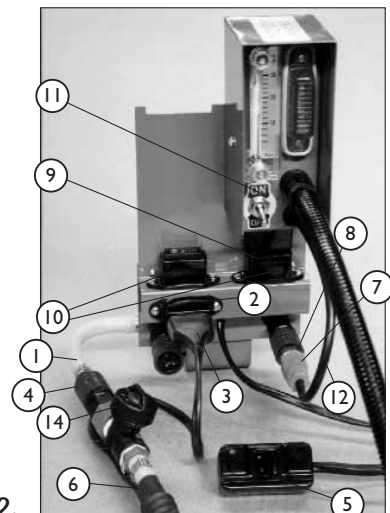

Figure 2.
5. Connect the quick release hose coupling of the tank hose (Fig.2, No. 4) to the connector on the backplate (Fig.2, No. 1).
6. Connect the 2 pin electrical plug (Fig.2, No. 3) from the tank to the 2 pin socket (Fig.2, No. 2) on the backplate.
7. To fit the sprayer control unit to the backplate, first ensure that the inline switch (Fig.2, No. 5) is in the **OFF** position. Connect the electrical plug (Fig.2, No. 9) to a socket (Fig.2, No. 10) while at the same time locating the clip on the back of the control unit between the locating lugs on the backplate.
8. Connect the quick release hose plug (Fig.2, No. 7) of the control to the corresponding connector (Fig.2, No. 8) on the front of the backplate.
9. Turn all the control box switches (Fig.2, No. 11) to the **OFF** position, and then turn the inline switch (Fig.2, No. 5) **ON**.